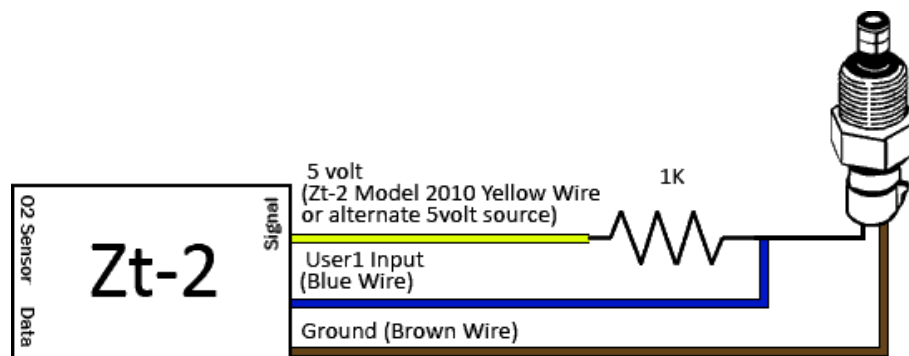

Figure 1: 1kOhm Pull-Up Wiring for Zeitronix Temp Sensors to Zt-2 USER1 Input or nGauge Analog-1 or Analog-2 Ports
- If any Zeitronix temperature sensors are connected to the Zt-2 USER1 input, or the nGauge Analog-1 or Analog-2 ports, those inputs require an external 1 K ohm pull up resistor to +5V (see Figure 1). Please see the Zeitronix web page for further details.